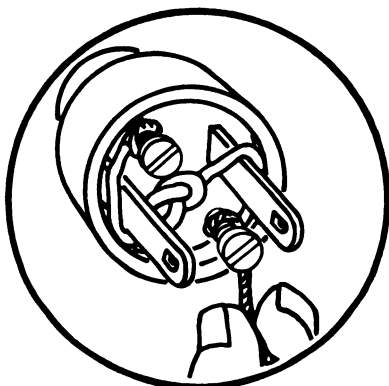

Fig. 9
9. Wrap the wire around the screw, clockwise. (Fig. 9)